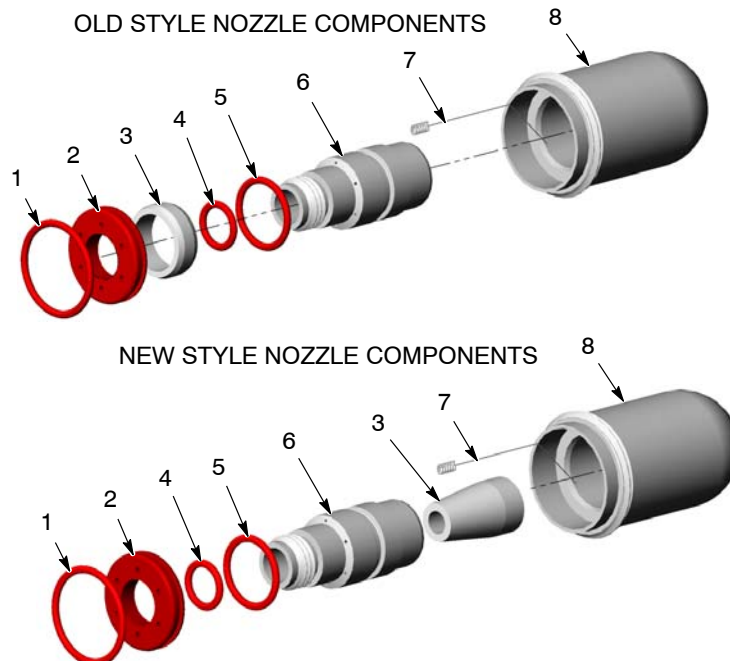

Figure 14 Internal Components of Nozzle Assemblies
NOTE: See Figure 14. Old style nozzles have a disk-shaped filter (3) installed on the outside of the insert (6) and held on by the electrode ring (2). New style nozzles have a conical filter that is installed inside the front end of the insert. The old style filter and insert are obsolete. If you are replacing the filter on an old style nozzle, you must also order a new insert. The new filters are available in quantities of 10.